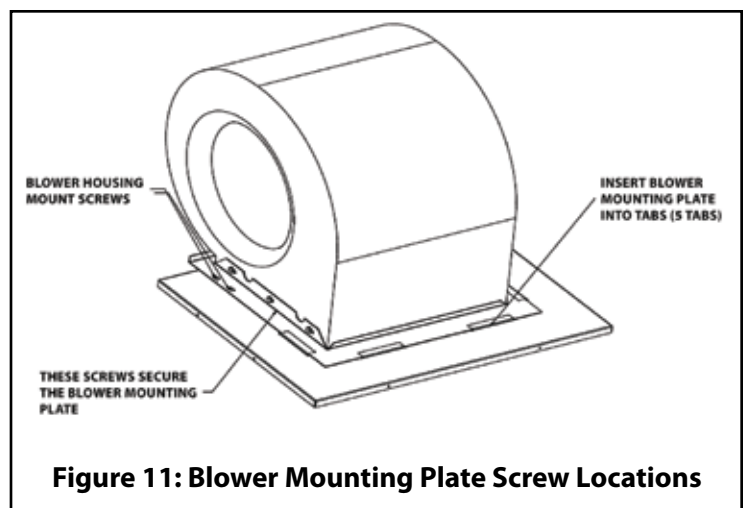

Figure 11: Blower Mounting Plate Screw Locations
4. Remove the two screws on the right side and the screw from the left side of the blower mounting plate. See Figure 11 for screw locations.